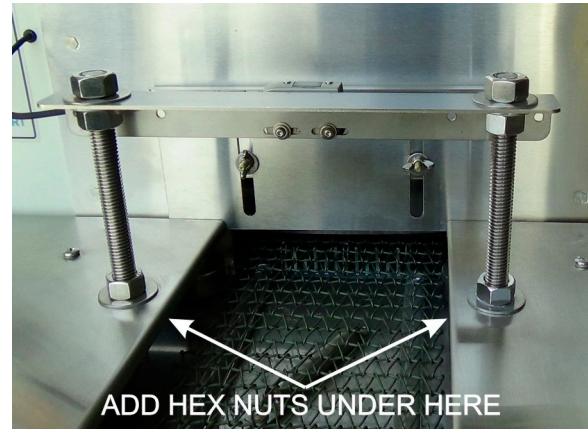

Figure 2-23 Install SENSLAS bracket
1. Insert bracket threaded legs through holes on Unload Station and fasten each leg with a washer and hex nut below the Unload Station table (see Figure 2-23).